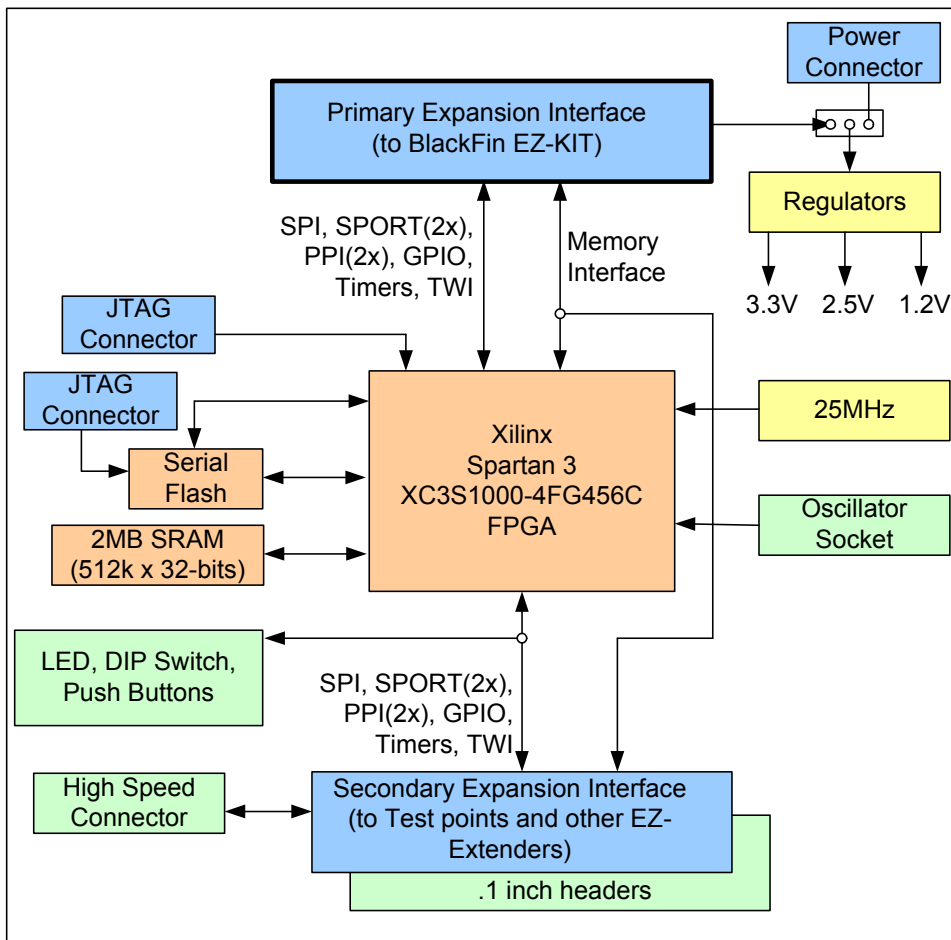

Figure 2-1. Block Diagram
4. Set the switches and jumpers on the FPGA EZ-Extender board. Use the block diagram in Figure 2-1 on page 2-2 in conjunction with "Jumpers" on page 2-11.
A block diagram of the Blackfin FPGA EZ-Extender is shown in Figure 2-1.